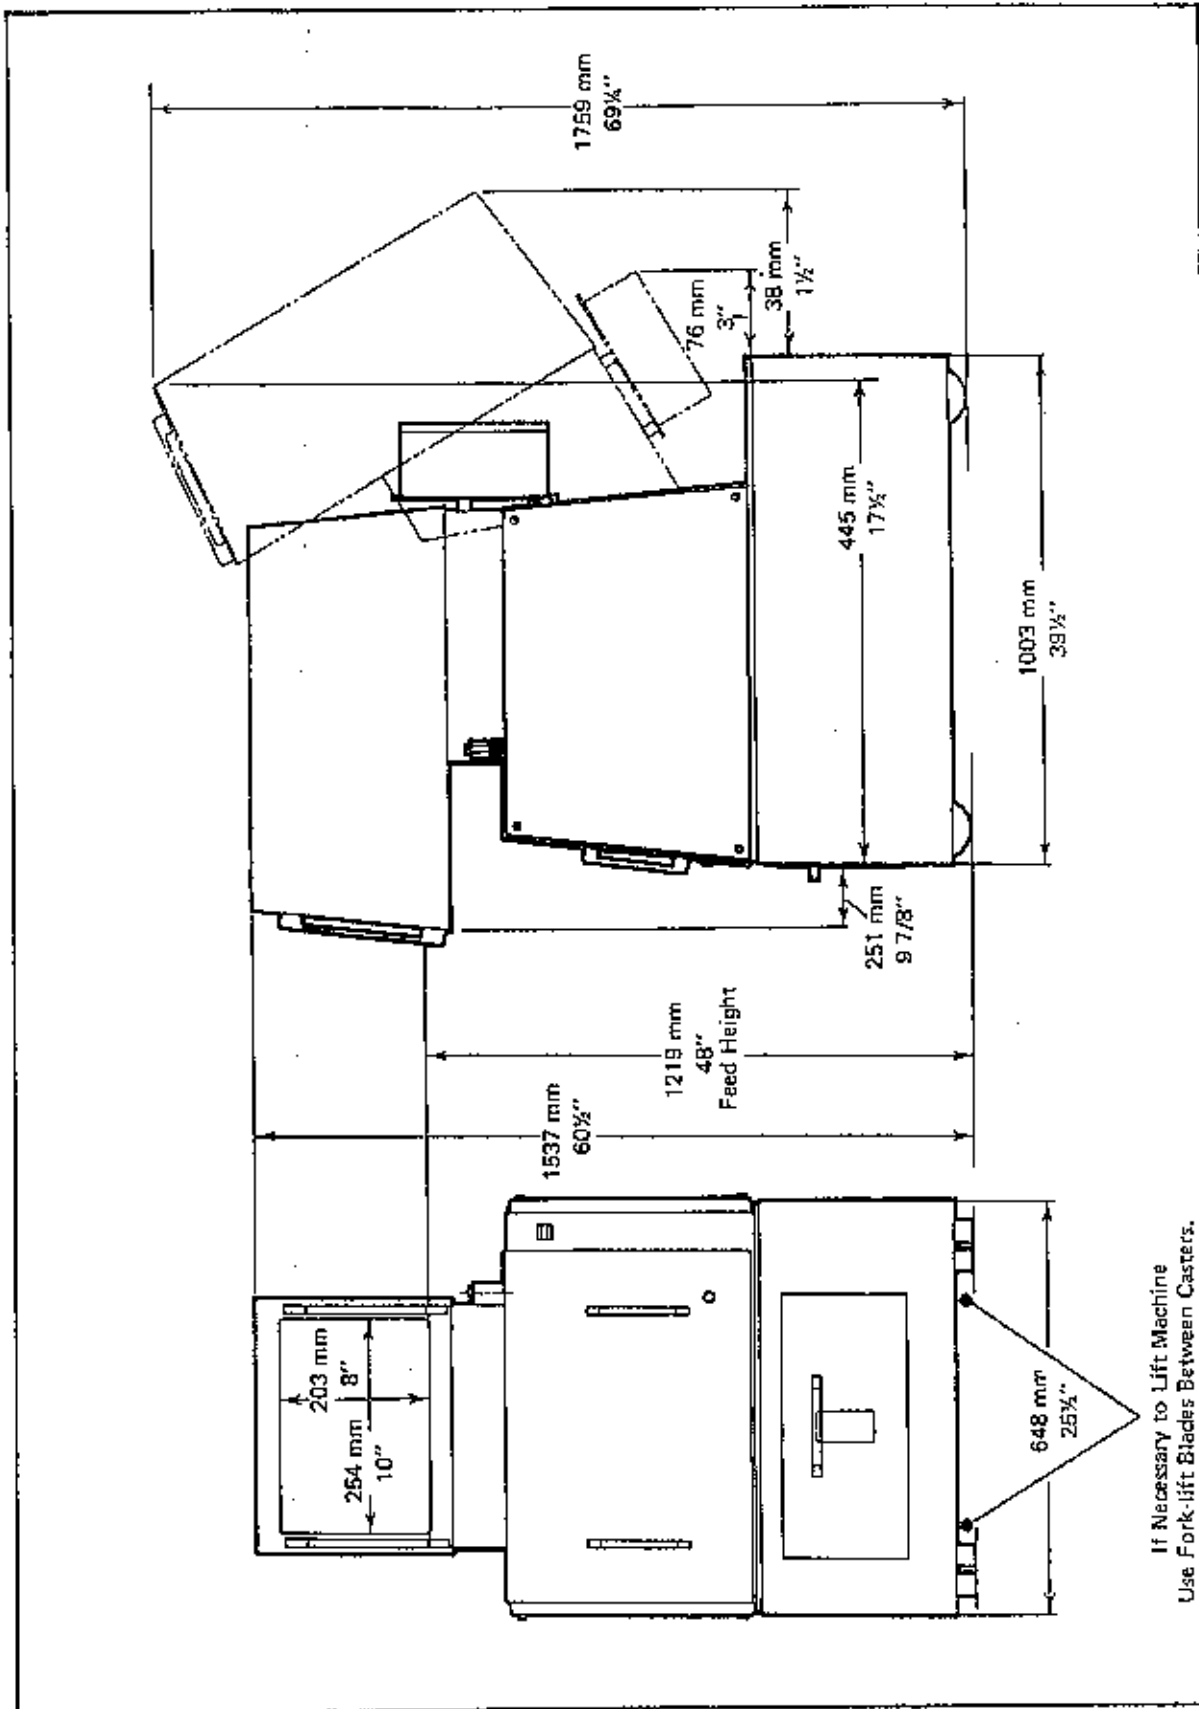

Figure 2-1 Floor Space and Plan Requirements
5. **LOCATE FOR ADEQUATE CLEARANCE (See Figure 2-1).**
Refer to Table 2-1. Specification Sheet and Figure 2-1. Floor Space and Plan Requirements.
If necessary to lift the machine, use a fork-lift as shown in Figure 2-1 for your model machine. **DO NOT** lift machine by the hopper handles or the guards.